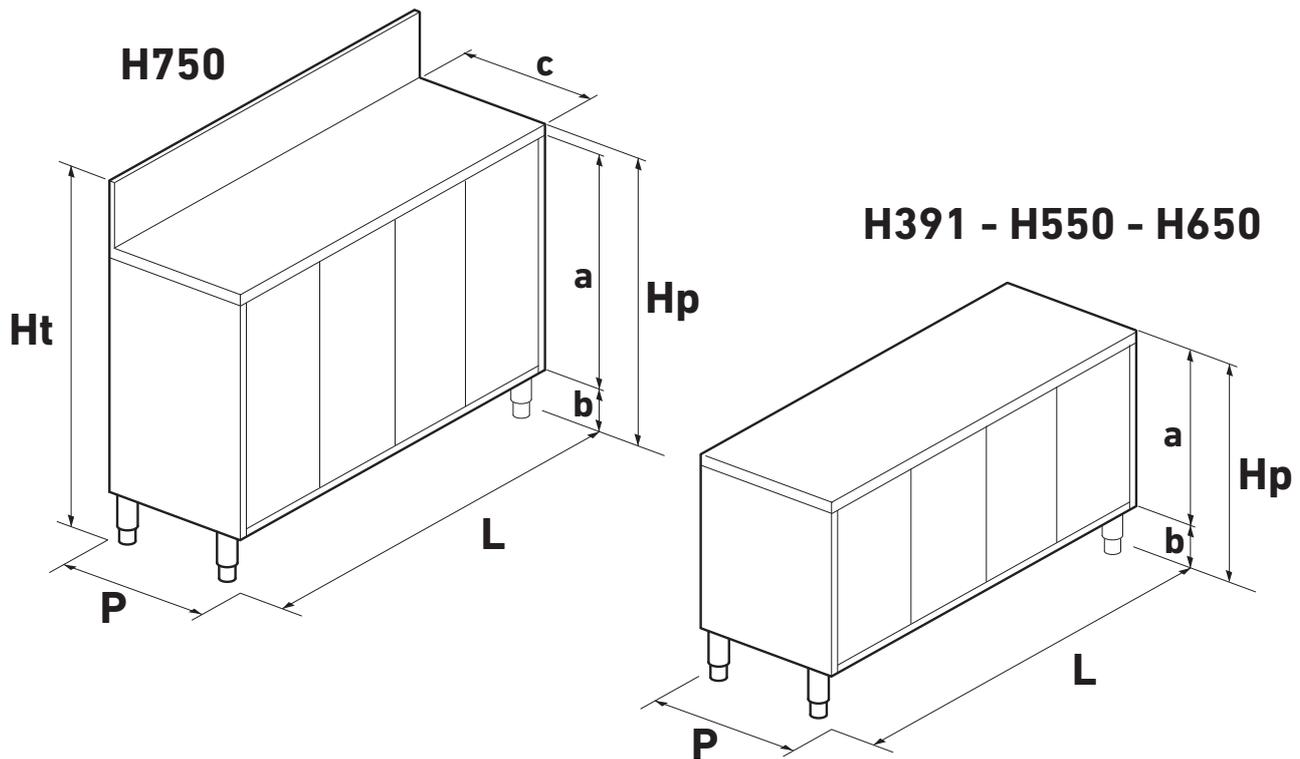

fig. 6
**Pressing the OFF button on the electronic control unit stops the operation of the Base Refrigerated but does not cause the disconnection of the power supply. It is therefore obligatory, in the event of maintenance work, to completely disconnect the showcase from the mains by pulling the power plug (fig.5) or by acting on the main switch installed upstream of the Base Refrigerated (fig.6).**